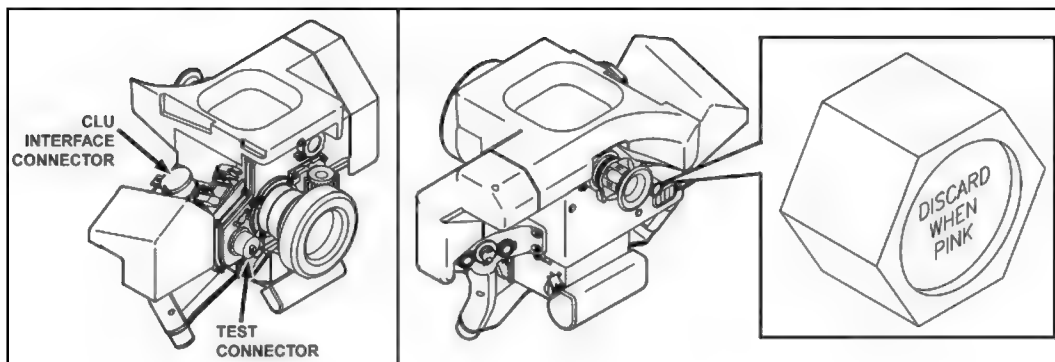

Figure 1-15. Test connector, round interface connector, and humidity indicator.
(5) The test connector (Figure 1-15) is used to perform direct support (DS) or higher-level maintenance and to interface with the FTT.
(6) The round interface connector (Figure 1-15) provides the electrical connection between the CLU and the round.
(7) The humidity indicator (Figure 1-15) displays the quality of the air inside the CLU (white or blue within acceptable levels; pink requires maintenance).